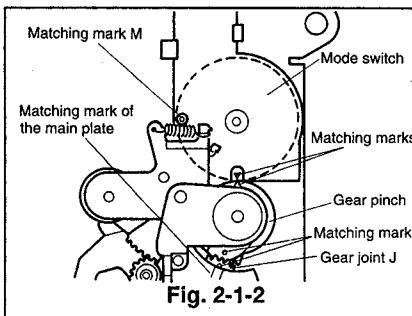

Fig. 2-1-2
- ① Make sure that the holes (matching mark M) on the body and cogwheel of the mode switch align with each other as shown in Fig. 2-1-2. At the same time confirm that the hole of the gear pinch aligns with the matching marks of the gear joint J and the △ mark on the mode switch cogwheel, refer to Fig. 2-19-5. This indicates the J deck is in the EJECT mode.